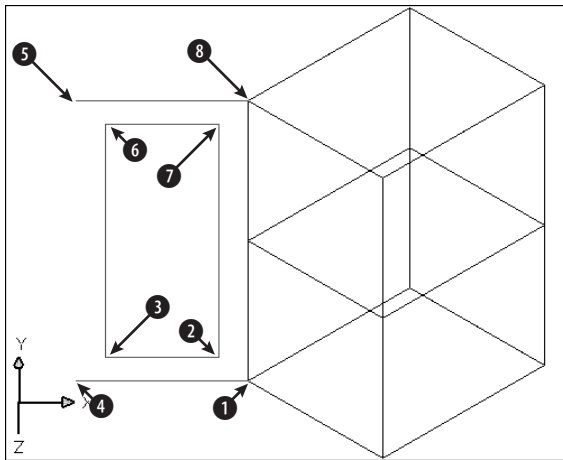

Figure 23-7: The partially completed cabinet
Your drawing should look like Figure 23-7.
Specify first point or [Invisible]: *Pick the endpoint at ① in Figure 23-7.*
Specify second point or [Invisible]: *Pick the endpoint at ② in Figure 23-7.*
Specify fourth point or [Invisible] <create three-sided face>: *Pick the endpoint at ④ in Figure 23-7. Notice the edge lines between ① and ② and between ③ and ④.*
Specify third point or [Invisible] <exit>: *Right-click and choose Invisible. Pick the endpoint at ⑤ in Figure 23-7.*
Specify third point or [Invisible] <exit>: *Pick the endpoint at 1 in Figure 23-7.*